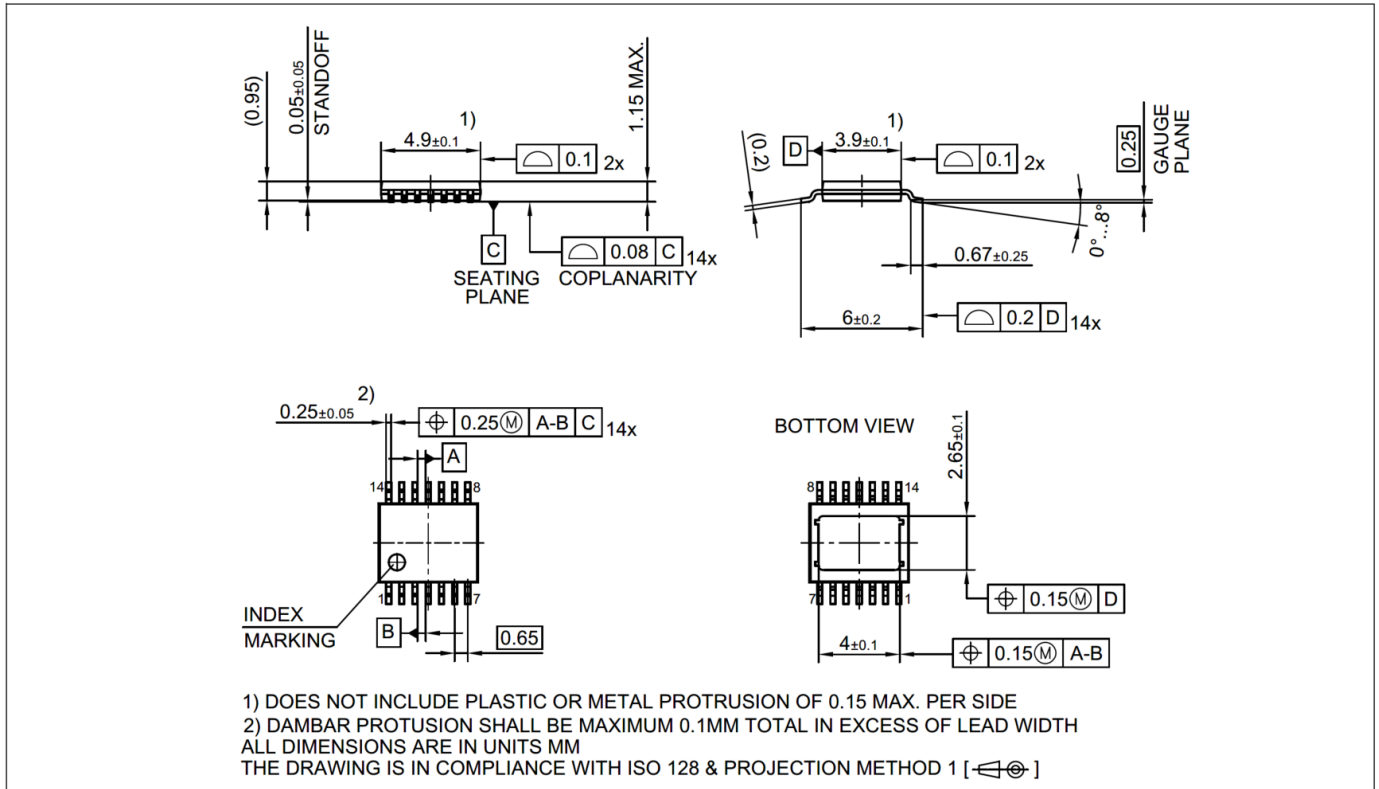
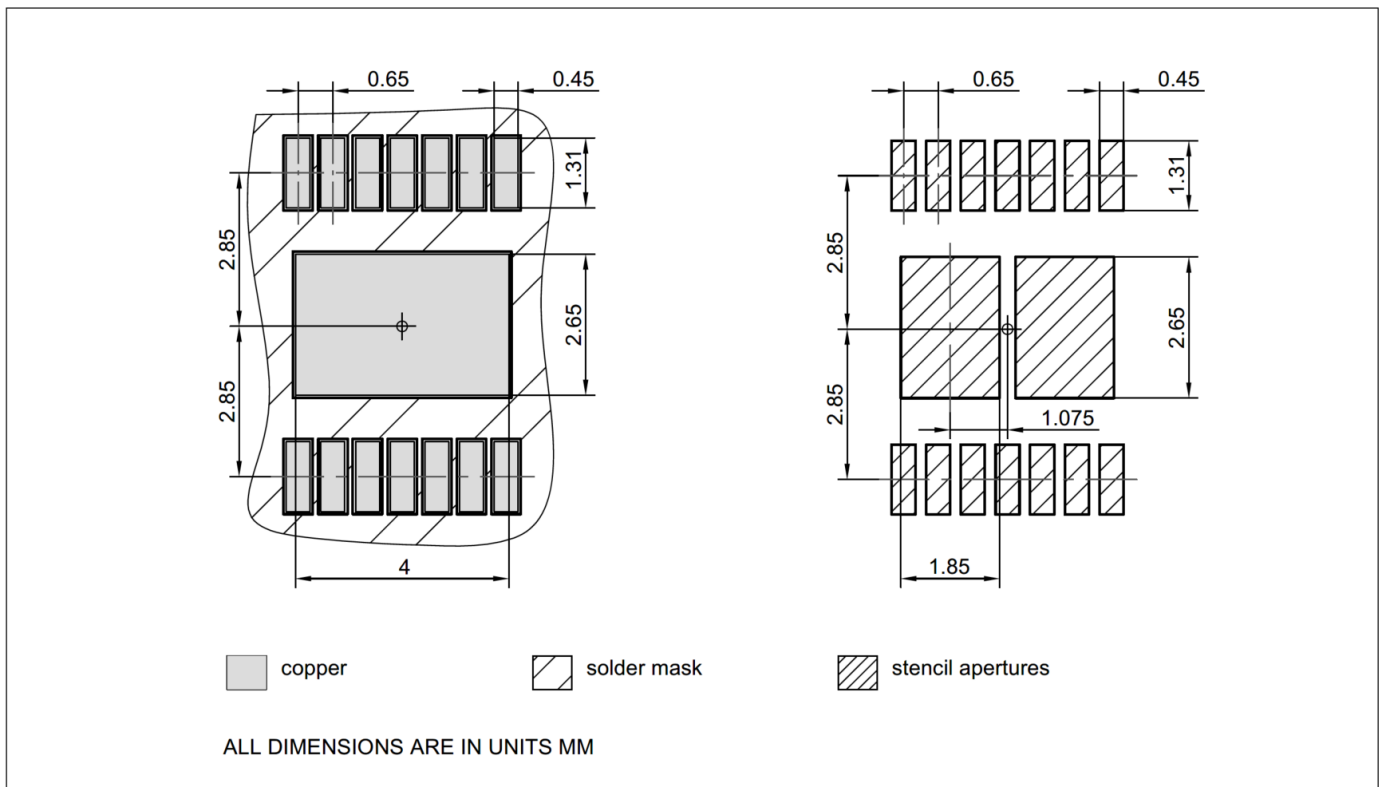

Figure 43 PG-TSDSO-14 (Thin (Slim) Dual Small Outline 14 pins) Package Outline
Figure 44 PG-TSDSO-14 (Thin (Slim) Dual Small Outline 14 pins) Package pads and stencil
1.02, 2019-06-26	<p>Chapter 9.2 updated (2 V → $V_{DS(OLOFF)}$)</p> <p>Chapter 1 updated ((inserted headline "Product Validation"), (Qualified in accordance with AEC Q100 grade 1 → Qualified for automotive applications. Product validation according to AEC-Q100 Grade 1.))</p> <p>General: updated Product Name (PROFET™+2 → PROFET™+2 12V)</p> <p>Page 1: updated figure product</p> <p>Table 24 updated punctuation</p> <p>Chapter 9.3.1 updated (typo)</p> <p>Page 1: updated (Package PG-TSDSO-14-22 → Package PG-TSDSO-14)</p> <p>Figure 29 updated</p> <p>Figure 43 updated (PG-TSDSO-14-22 (Thin (Slim) Dual Small Outline 14 pins) Package Outline → PG-TSDSO-14 (Thin (Slim) Dual Small Outline 14 pins) Package Outline)</p> <p>Figure 44 updated (PG-TSDSO-14-22 (Thin (Slim) Dual Small Outline 14 pins) Package pads and stencil → PG-TSDSO-14 (Thin (Slim) Dual Small Outline 14 pins) Package pads and stencil)</p> <p>Table 1 updated ((Symbol: $I_{VS(SLEEP)}$ → $I_{VS(SLEEP)_85}$), (Parameter: Minimum Overvoltage protection ($T_J = 25\text{ °C}$) → Minimum Overvoltage protection ($T_J \geq 25\text{ °C}$))</p> <p>P_9.6.0.6 updated (Note or Test Condition: removed unnecessary line-break)</p>